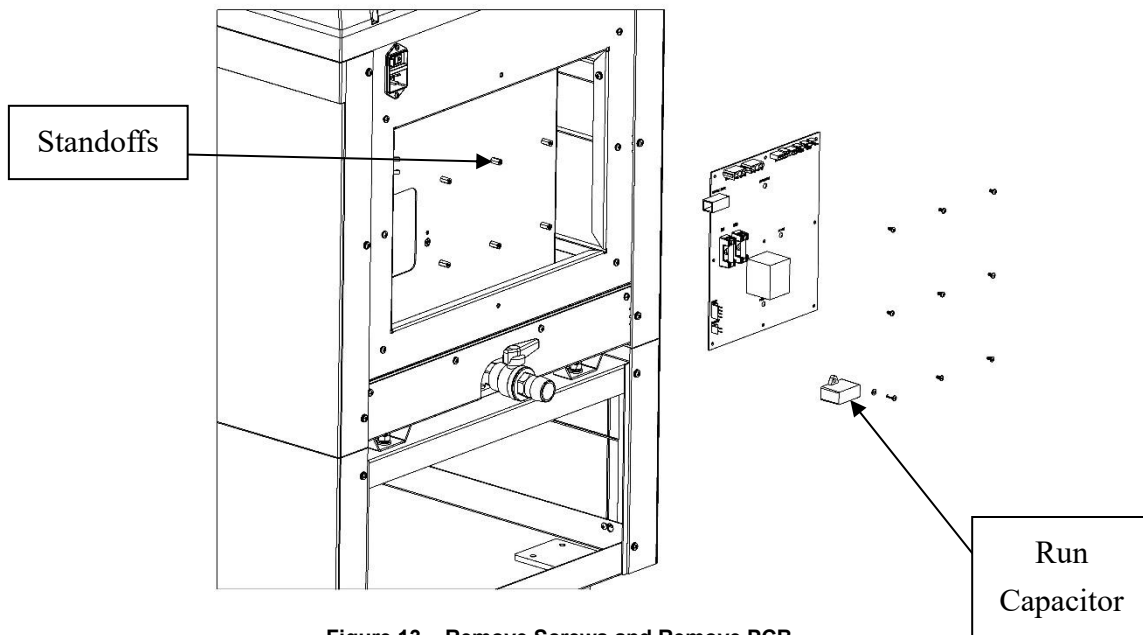

Figure 13 – Remove Screws and Remove PCB
- d. Remove the screw that holds on the run capacitor to the PCB (**See *Figure 13***). This screw is longer than the other screws.